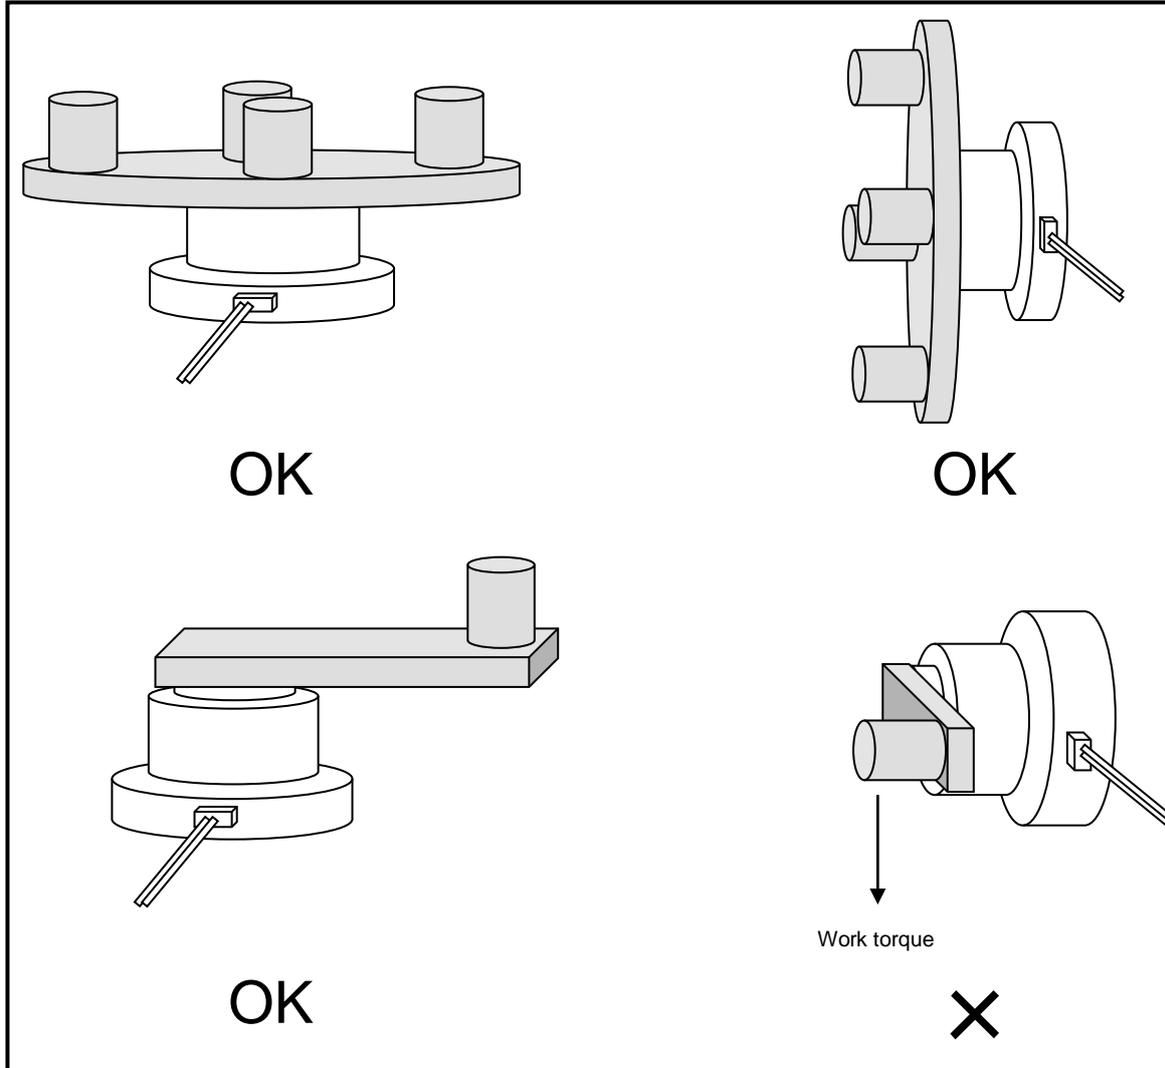

Fig. 4.4 Action of Work Torque
- ◆ If a work torque (external force to rotate the output axis of the actuator) acts as shown in Fig. 4.4, auto tuning is impossible. Use the manual gain adjustment method, too, in this case.